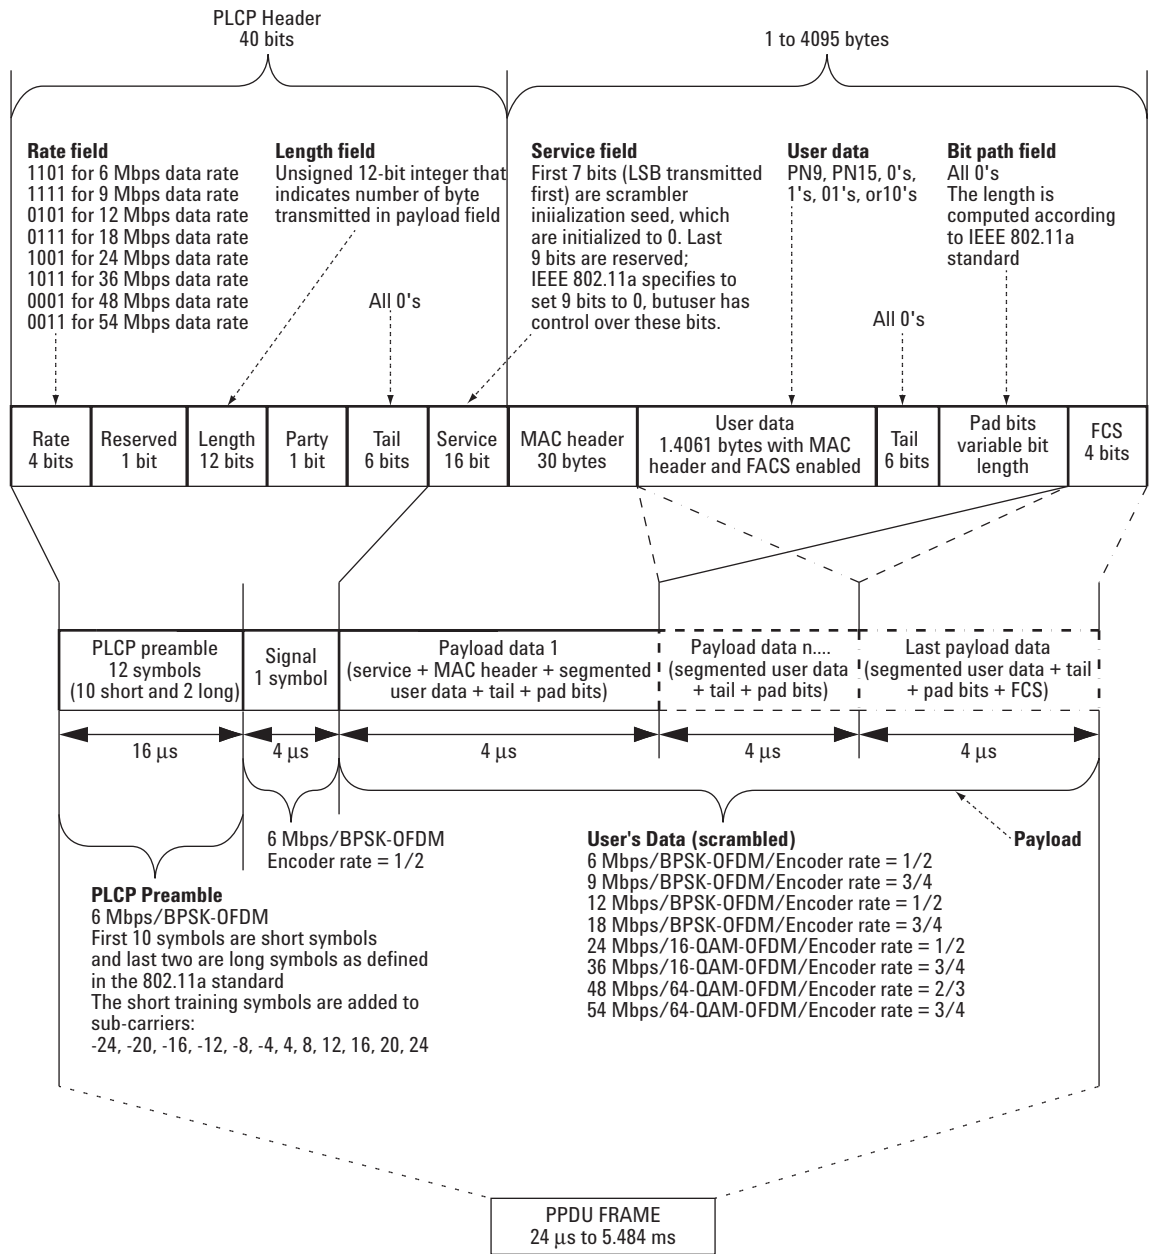

Figure 5. Signal Studio 802.11a detailed packet structure
The 802.11a burst has four distinct regions. The first region consists of a short preamble. The short preamble contains 10 short symbols assigned to sub-carriers -24, -20, -16, -12, -8, -4, 4, 8, 12, 16, 20, 24. The second region contains 2 long symbols that are assigned to all 52 sub-carriers. The preamble is BPSK modulated at 6 Mbps. It contains no channel coding, and is not scrambled. The third region of the packet is the Signal field, which consists of one OFDM symbol assigned to all 52 sub-carriers. This symbol is BPSK modulated at 6 Mbps and is encoded at a 1/2 rate. The Signal field is not scrambled. The last region of the packet consists of the Service field and multiple data payload segments. This region is scrambled. The data rate, encoding rate, and modulation varies, see Figure 5. Notice that guard intervals (GI) are added to the long preamble, header, and the Service and payload data.